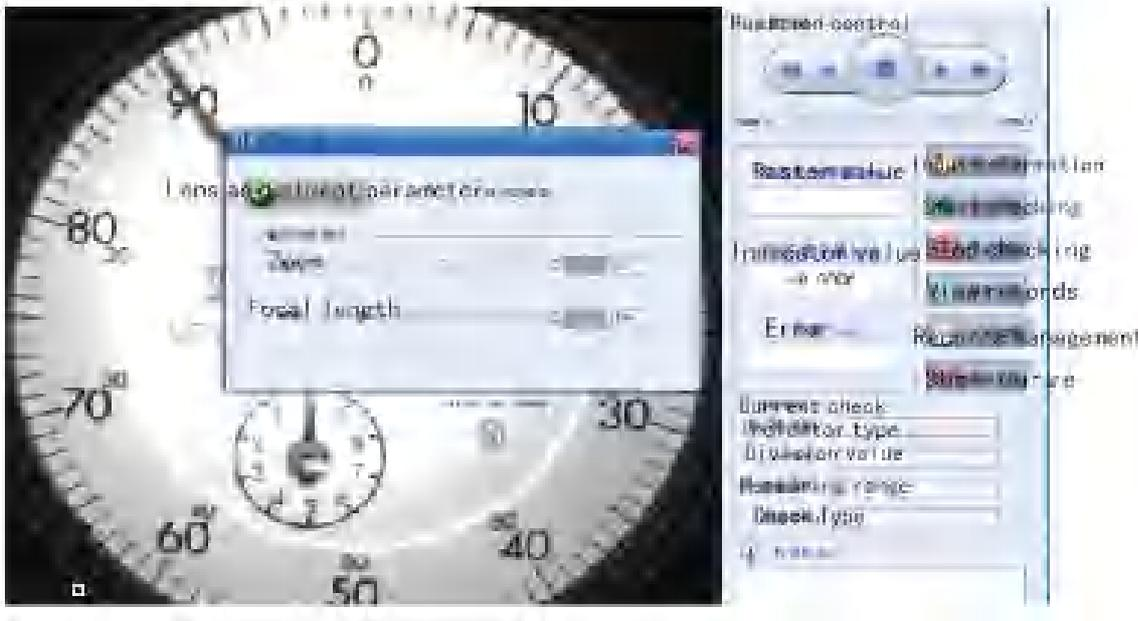

Figure 5-6 After autofocus
- When the image size is adjusted properly, you can click the “Autofocus” in the dialog box to focus on the image. See figure 5-6.